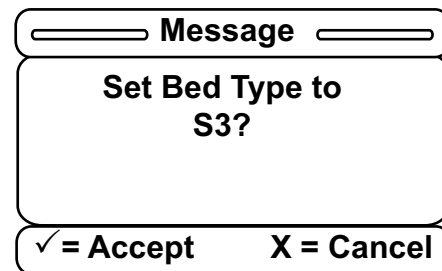

Figure 27 – Message screen
- After you select a Bed Type from the list above, a confirmation screen will be displayed. The confirmation screen text will vary based on the item you selected. The Message screen indicates that you chose the Bed Type **S3** (Figure 27). Press **Enter** on the footboard panel to confirm the Bed Type or **Exit** to cancel the operation.